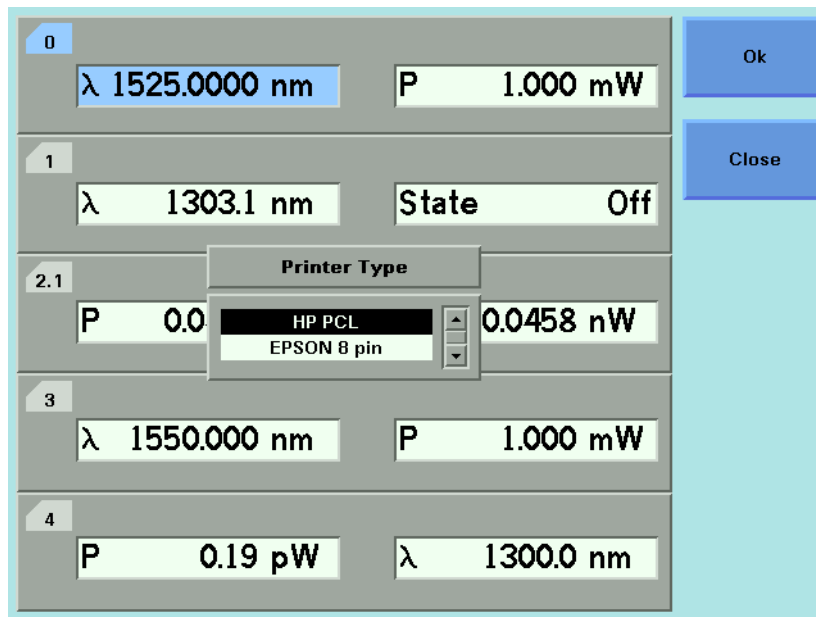

Figure 36 Selecting a Printer Type
- 2** Move to the <Printer Type> menu option and press *Enter*. You see a box, as shown in Figure 36, displaying the following printer types: